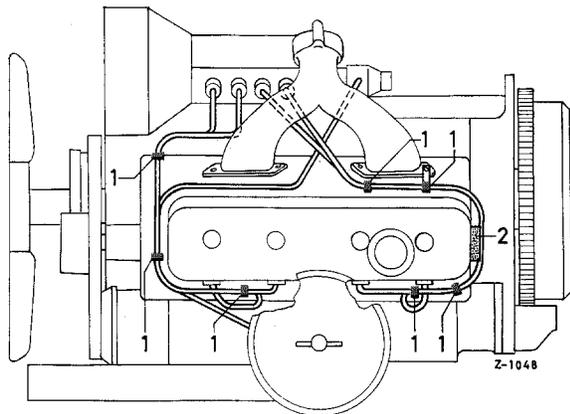

Figure 07-15/3
5. Install the pipe clips and fix them, together with the two holders, to the water pump and the exhaust manifold (see Figure 07-15/1 and 07-15/3).
6. To prevent a contact between the injection lines and the cylinder head a rubber pad (2) is inserted between the lines and the cylinder head (see Figure 07-15/3).
**Note:** This rubber pad (2) should be subsequently installed on all engines, because especially at this point the lines often cause noises due to contact with the cylinder head.